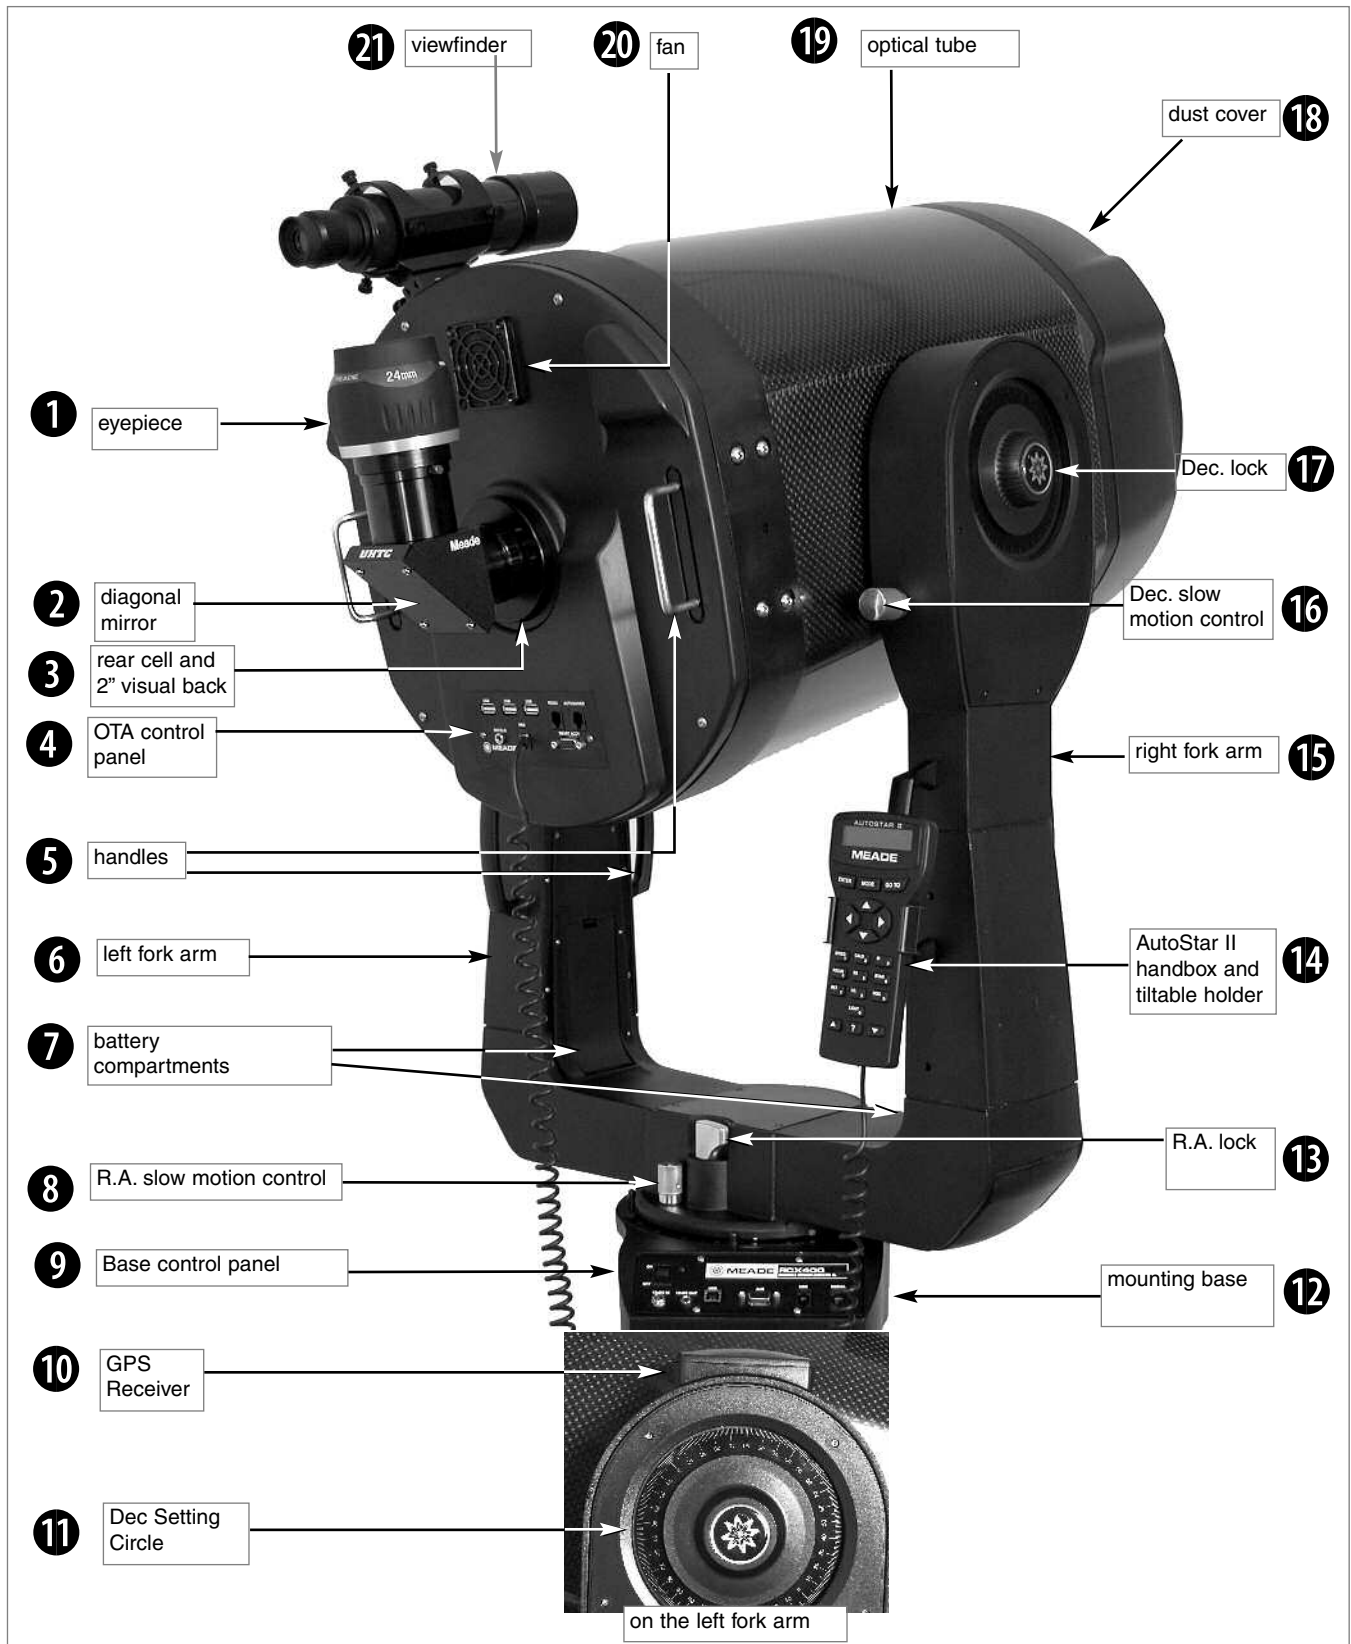

Fig. 1a: The RCX400 Telescope; Dec. Setting Circle (inset).
1. Thread the ring of the visual back (16) over the rear cell (15) and rotate the ring, tightening to a firm feel. Slide the diagonal (18) into the visual back and secure it in place using the visual back thumbscrew (17).
Remove the UltraWide 24mm eyepiece (19) from its container and place it in the diagonal mirror. Tighten the thumbscrew (20) located on the diagonal mirror to a firm feel only. Remove the dust cover (18, Fig. 1a) from the front of the optical tube assembly (19, Fig. 1a) by gently prying it off.
- 1 **Eyepiece:** Place the 2", 6-element UltraWide 24mm eyepiece into the diagonal mirror (3, Fig. 1a) and tighten in place with the diagonal mirror's thumbscrew (2, Fig. 1a). The eyepiece determines the magnification of the image collected in the optical tube.
- 2 **2" Diagonal Mirror and Eyepiece Thumbscrew:** Provides a more comfortable right angle viewing position. The eyepiece thumbscrew tightens the eyepiece (1, Fig. 1a) in place. Tighten to a firm feel only.
- 5 **Handles:** Use to lift optical tube assembly or to rotate the telescope when attached to the tripod. Attach the AutoStar II handbox holder to one of the handles (5, Fig. 1a).
When loosening the Dec. lock, be sure to support the optical tube (19, Fig. 1a). The weight of the tube could cause the tube to swing suddenly.